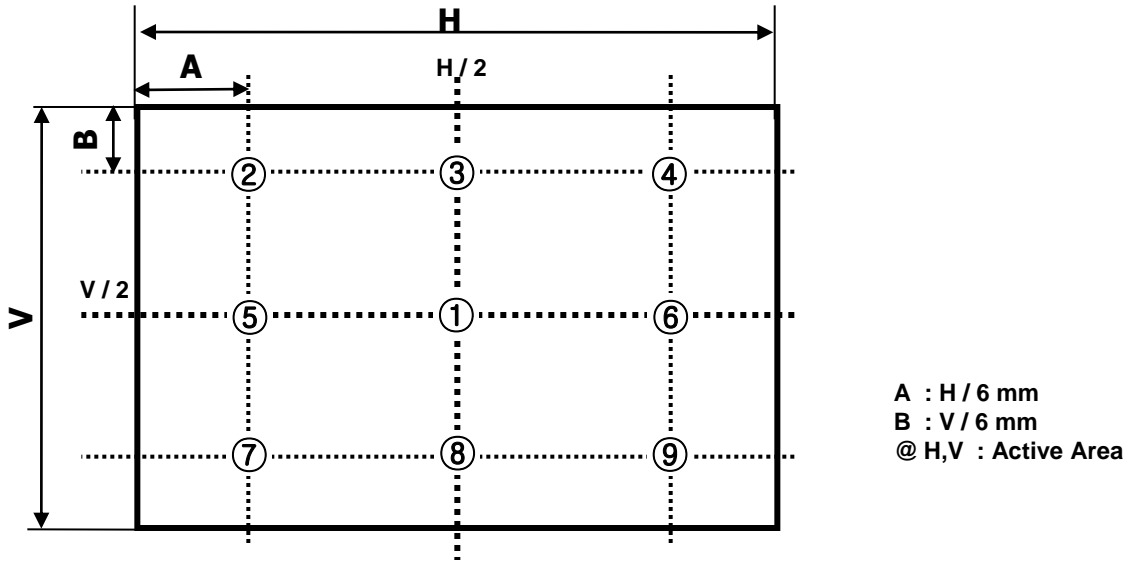

FIG. 2 9 Points for Luminance Measure
2. Surface luminance is determined after the unit has been 'ON' and 1 Hour after lighting the backlight in a dark environment at $25 \pm 2^\circ\text{C}$. Surface luminance is the luminance value at center 1-point across the LCD surface 50cm from the surface with all pixels displaying white. For more information see the FIG. 2.